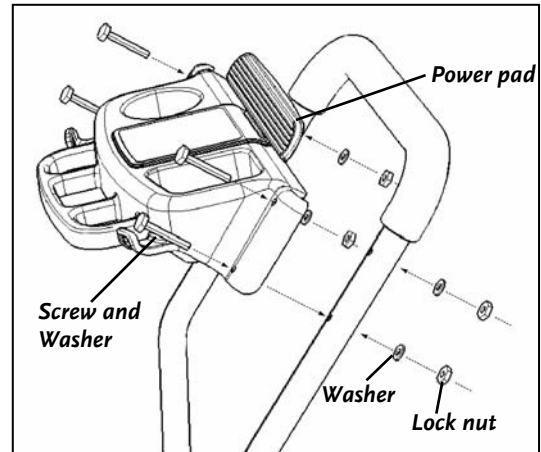

Figure 6. Securely attach the controls caddy to the upper handle.
- Position the Controls Caddy on the upper handle, align the holes on the caddy with the holes in the handle (**Figure 6**), and hold the caddy firmly against the handle.